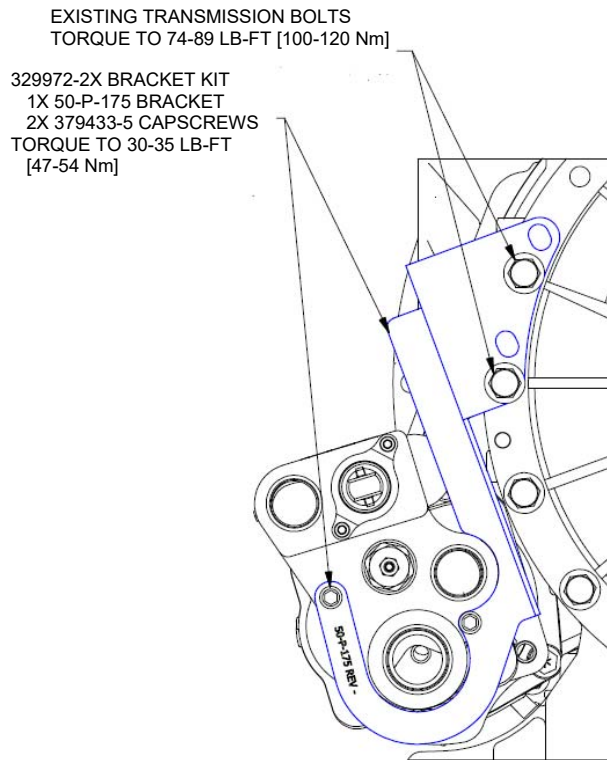
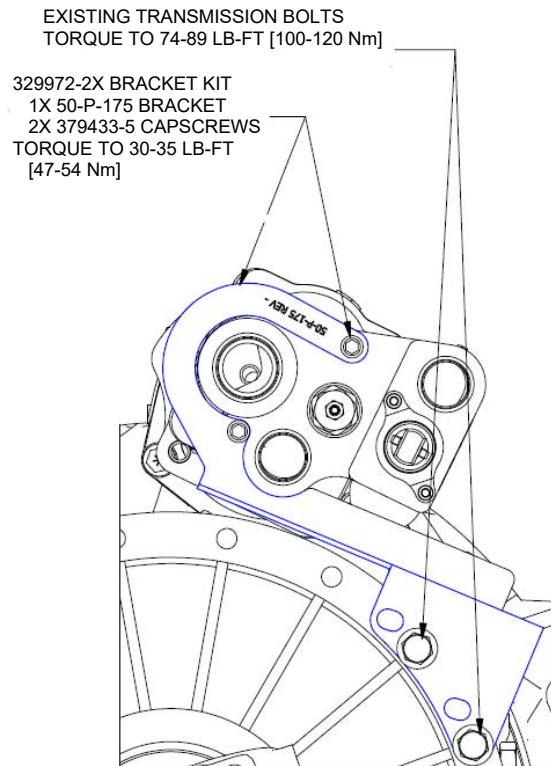

Figure 5 – Allison 4000 Left Side Bolt Locations
Figure 6 – Allison 4000 Right-Top Bolt Locations
- Install bracket to transmission using the existing transmission bolts in approved locations as shown in *Figure 5* and *Figure 6*. Slightly tighten, but do not fully torque to allow alignment all mounting holes.